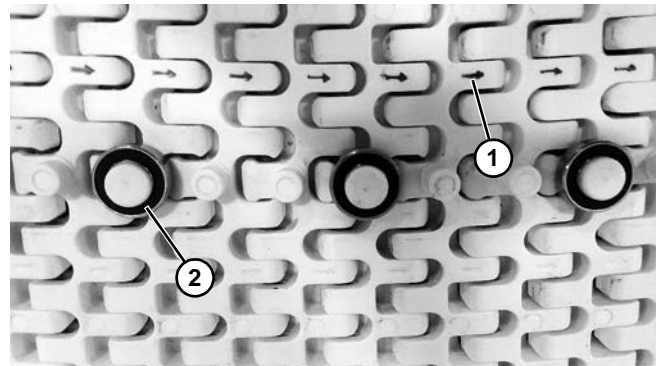

Figure 10
2. Orient the belt with the arrows (**Figure 10, item 1**) on the underside of the belt pointing in the direction of the travel of the belt.
*The bearings (**Figure 10, item 2**) on the underside of the belt must not be next to each other. A minimum of one space, and a maximum of two spaces, is required between bearings.*